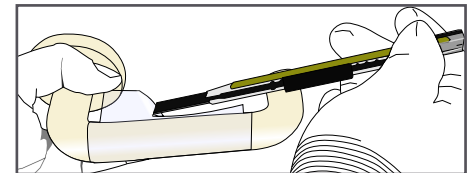

Figure 18
- › Finish with a small overlap (approx. 2 mm / 0.1 in) with the other end of the film at the rear side of the handle. Cut the excess film. (FIG. 18)